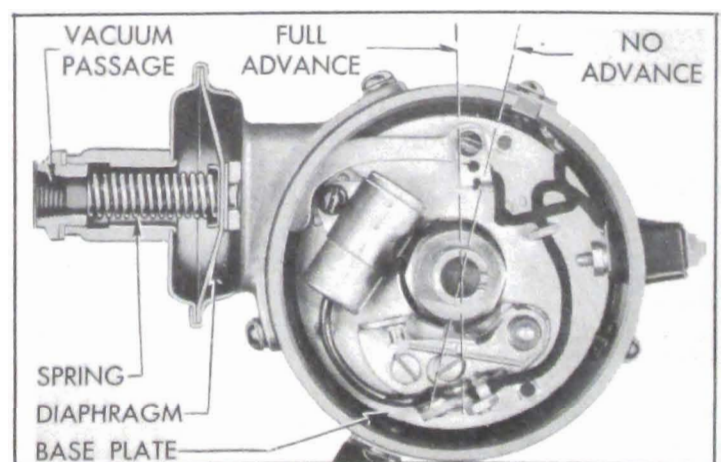

Figure 10-48—Vacuum Advance Mechanism
3. *Vacuum Controlled Advance* is governed by manifold vacuum during part throttle operation. The contact points are mounted on a base plate which is supported by three bakelite buttons or bearings upon a stationary support plate in distributor housing. The base plate is held to the support plate by a retainer washer seated in a groove of base plate hub, which serves as a bearing to permit the base plate to rotate on the support plate. The base plate and attached contact points can be rotated around the distributor cam by the link of the vacuum control mounted on the side of distributor housing. See figure 10-48.